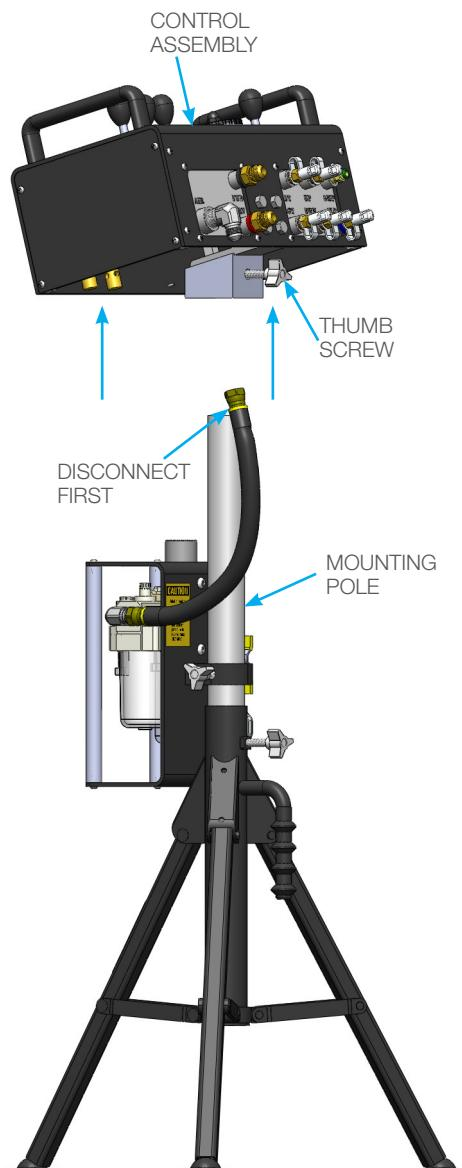

FIGURE 1
1. Disconnect the air hose from the back of the Control Assembly. Loosen the Thumb Screw on the Pole Mount and carefully lift the Control Assembly off of the Mounting Pole. Put the Control Assembly aside. (**Figure 1**)
1. Connect the BLACK and RED 1/2" lines from the AutoStroke "Forward" and "Reverse" connections to the "Forward" and "Reverse" connections on the back of the CBX-ABX. Connect the SHORT 1/4" I.D. Hose to the fitting marked "CLAMP" on the left side of the AutoStroke to the "CLAMP" fitting on the Control Box. (**Figure 1**)